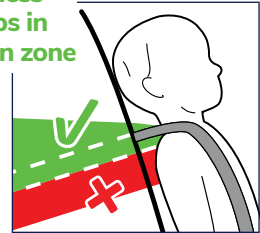

Figure 22
Step 2. The shoulder straps must be in the slots which are nearest to the child's shoulders but not more than 25mm below the child's shoulders. (Figure 22).